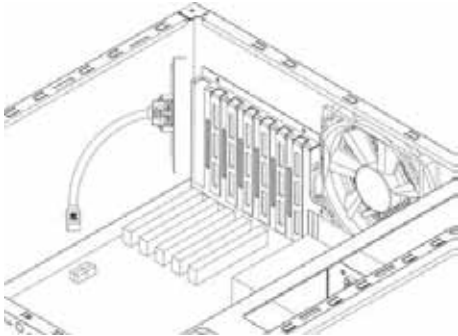

Fig. 7
2. Insert the included eSATA bracket into the slot bracket and attach it to the case using the anchor screw (fig. 7).